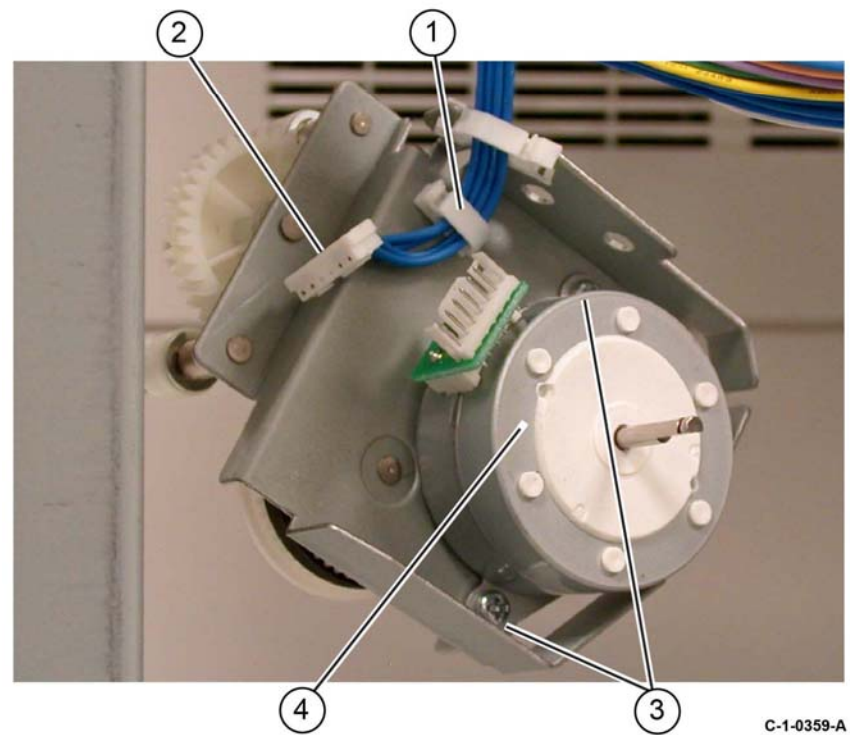

Figure 3 Stapler motor removal
4. Remove the stapler motor, Figure 3:
- a. Release the wires from the cable clamp (1).
- b. Disconnect the connector (2).
- c. Remove two screws (3).
- d. Remove the stapler motor (4).